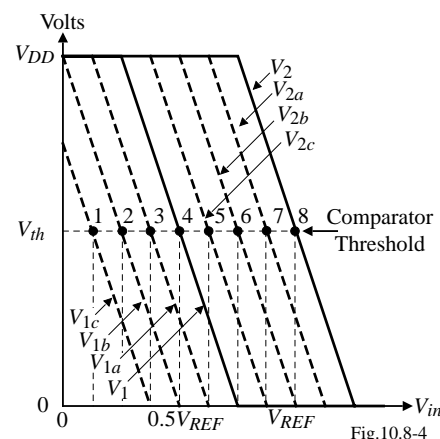

Fig.10.8-4
- If the dots in Fig. 10.8-4 are not equally spaced, *INL* and *DNL* will result.